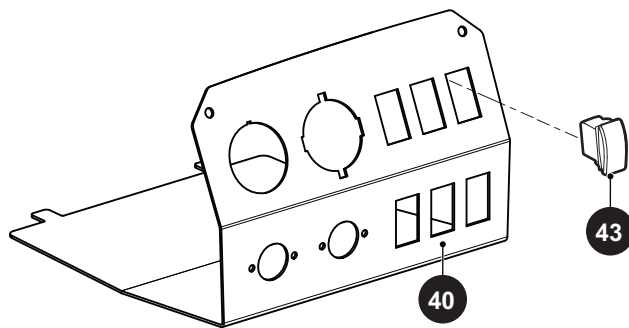

Fig. 17 Rocker Switch 12V Outlet
4. Squeeze the tabs on the top and bottom of the backside of the rocker switch (43) and push it through the front of the gauge panel (40) (Ref. Fig. 17).